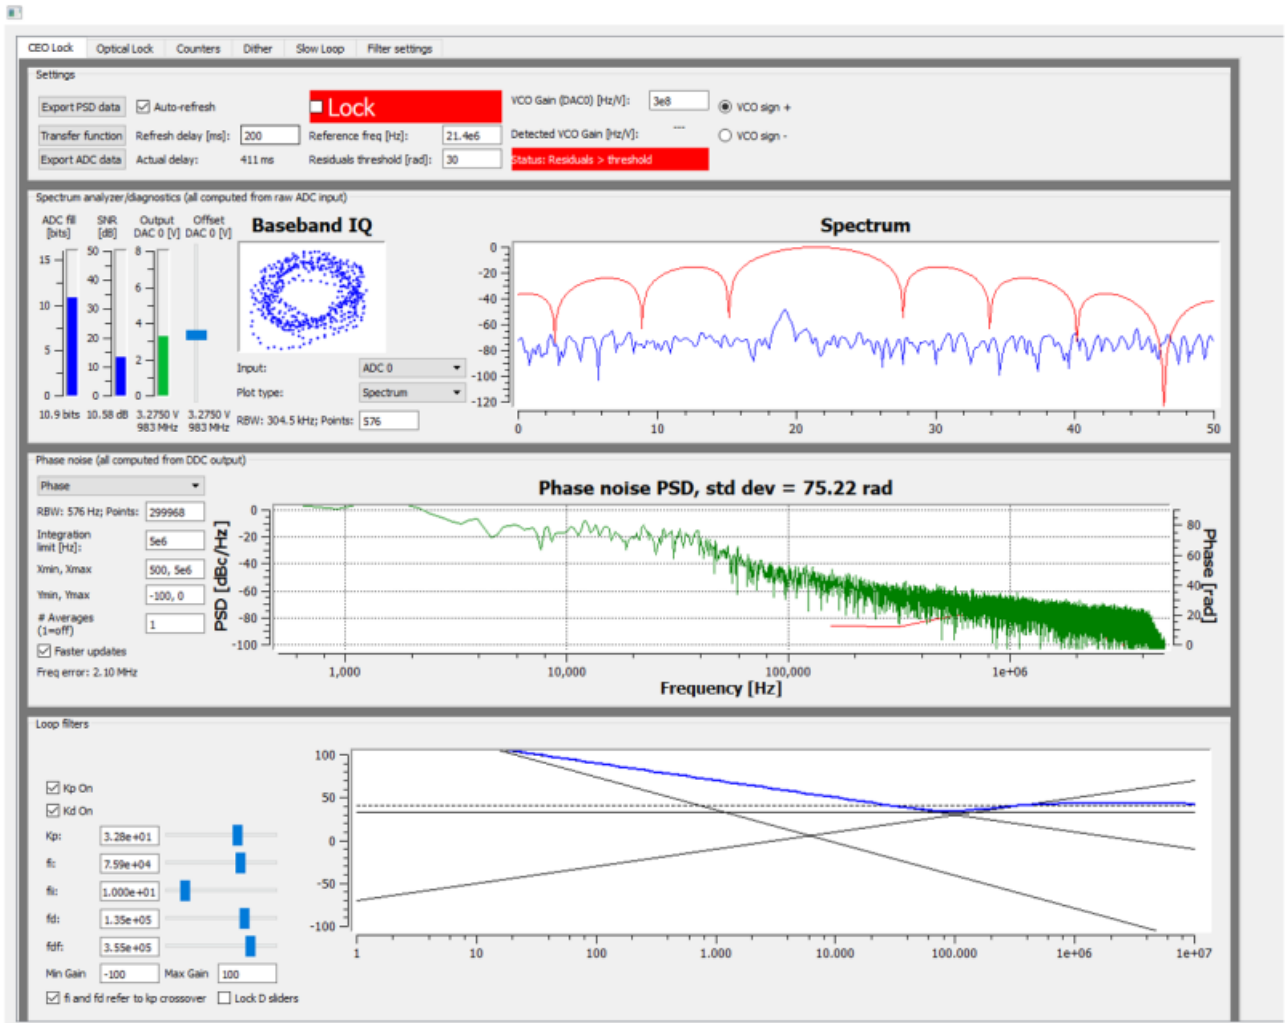

Fig. 5: Centering $f(\text{CEO})$ on reference frequency (Baseband IQ optimization)
1. Navigate to the “CEO Lock” tab and adjust the “Offset DAC 0” slider near the top left by clicking and dragging the slider until the the data in the Baseband IQ plot is circular (figure 5). This centers the beat note near the reference frequency. It is also possible to adjust the FFC-100 oscillator current on its front panel to make this adjustment.